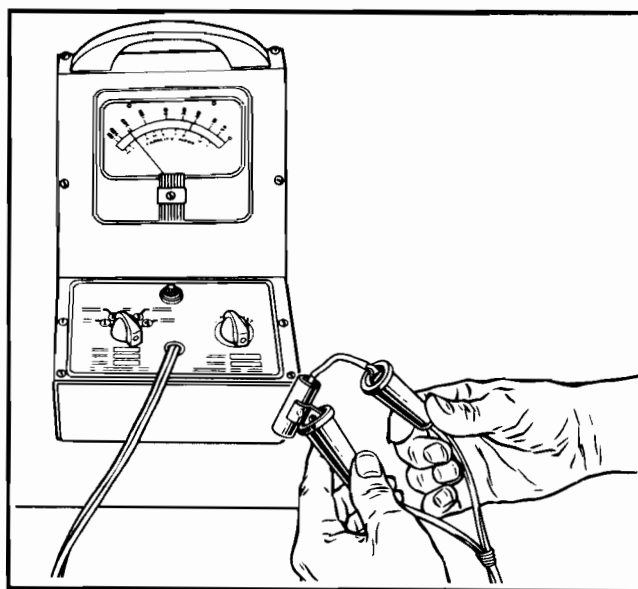

**Figure No. 16—Gapping Breaker Points—Phelon**
5. Check the breaker points (See Figure No. 15). Be sure they are set to the proper gap. (.020) by using a feeler gage. (See Figure No. 16.)